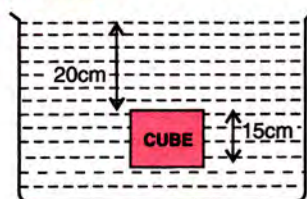

Fig. 4.11
9. Fig. 4.11 shows a cube of each side 15 cm immersed in a tub containing water of density 10^3 kg m^{-3} such that its top surface is 20 cm below the free surface of water.